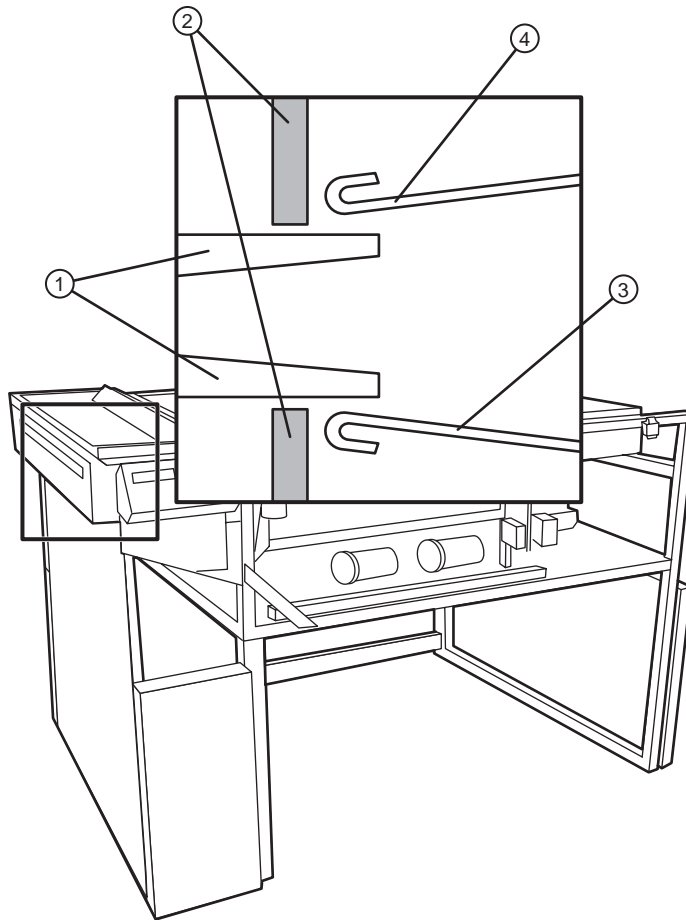

Figure 1-16 The buffer and OLP interface.
- ①—Front left vent cover. ②— Front right vent cover. ③—Lower rear panel.
④—Left side panel. ⑤—Front panel.
5. Remove the upper entry platen from the entrance rack. Refer to Figure 1-16.
6. Roll the imagesetter with the buffer attached to the OLP. The buffer and OLP must interface as shown in Figure 1-16.